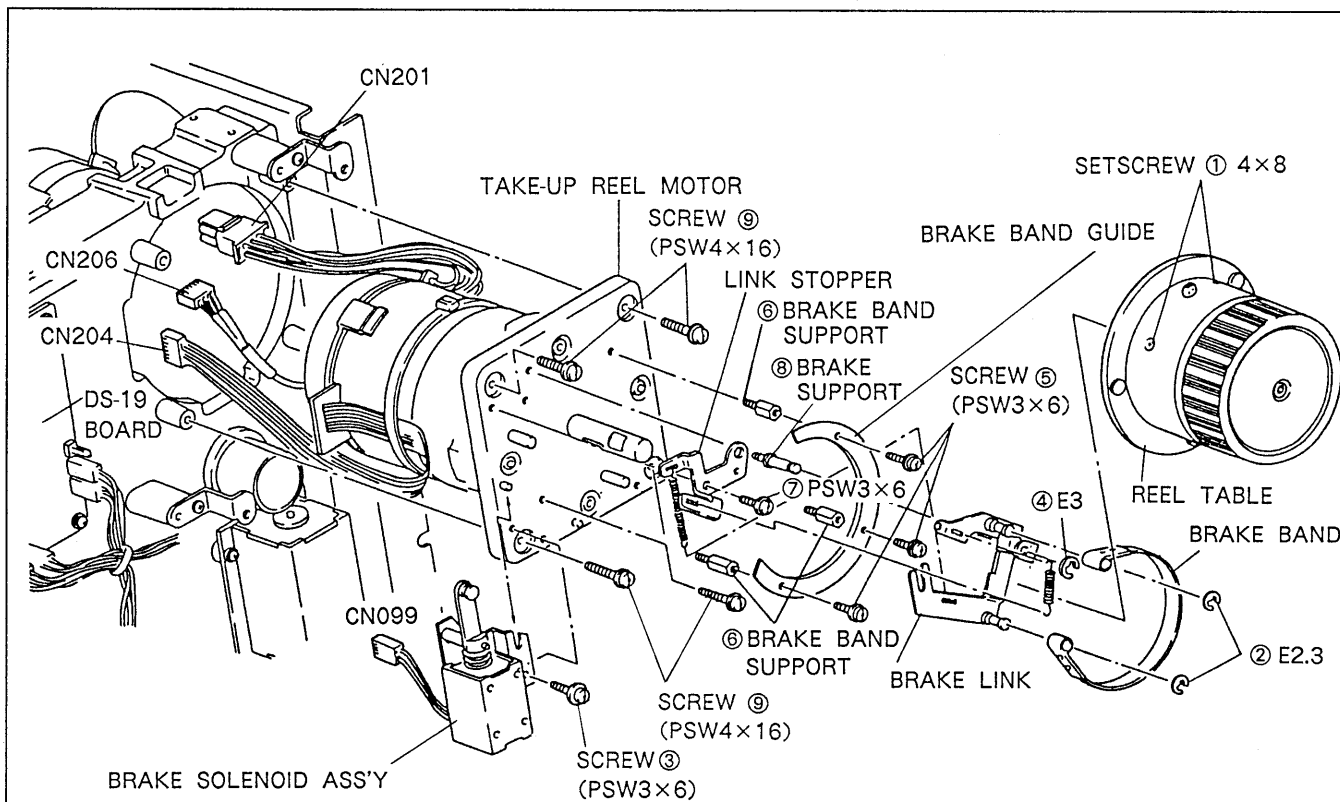
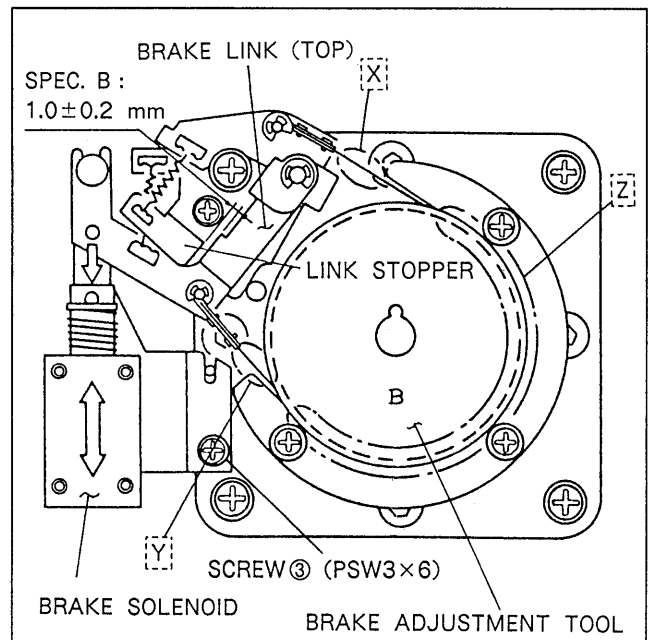

Fig. 6-6-10. Take-up Reel Motor Replacement
Fig. 6-6-12. Link Stopper/Brake Solenoid Position Adjustment
3. Loosen the two setscrews ① shown in Fig. 6-6-10, and remove the reel table while pressing the plunger of solenoid to be absorbed by hand. Hexagonal wrench screwdriver: 2 mm (Opposite side)
4. Remove the two E-rings ② and remove the brake band.
5. Remove screw ③ and remove the brake solenoid assembly.
6. Disengage one end of the two springs installed between the link stopper and brake link. Then remove the E-ring ④ and remove the brake link.
7. Remove the three screws ⑤ and remove the brake band guide.
8. Remove the three brake band supports ⑥. Nut screwdriver: 5.5 mm (Opposite side)
9. Remove the screw ⑦ which secures the link stopper and then remove the brake support ⑧. Nut screwdriver: 7 mm (Opposite side)
10. Remove the four screws ⑨ and remove the take-up reel motor.
18. Arrange the brake link as shown in Fig. 6-6-10. Insert it into the brake support and secure it using the E-ring ④.
20. Secure the brake solenoid assembly loosely using screw ③.
22. Adjust the position of the link stopper so that the clearance between the link stopper and brake link (top) meet the specification B shown in Fig. 6-6-12 without the plunger of solenoid being absorbed.
23. Press the plunger of solenoid to be absorbed by hand. Adjust the position of the brake solenoid adjustment tool and brake band is not less than 0.2 mm in the entire Z area range without the brake bands becoming deformed in the vicinity shown by X and Y in the Fig. 6-6-12. After the adjustment, tighten up the mounting screw ③ properly and secure the solenoid.
26. While pressing the reel table lightly in the motor direction, tighten up the two setscrews ① and secure.